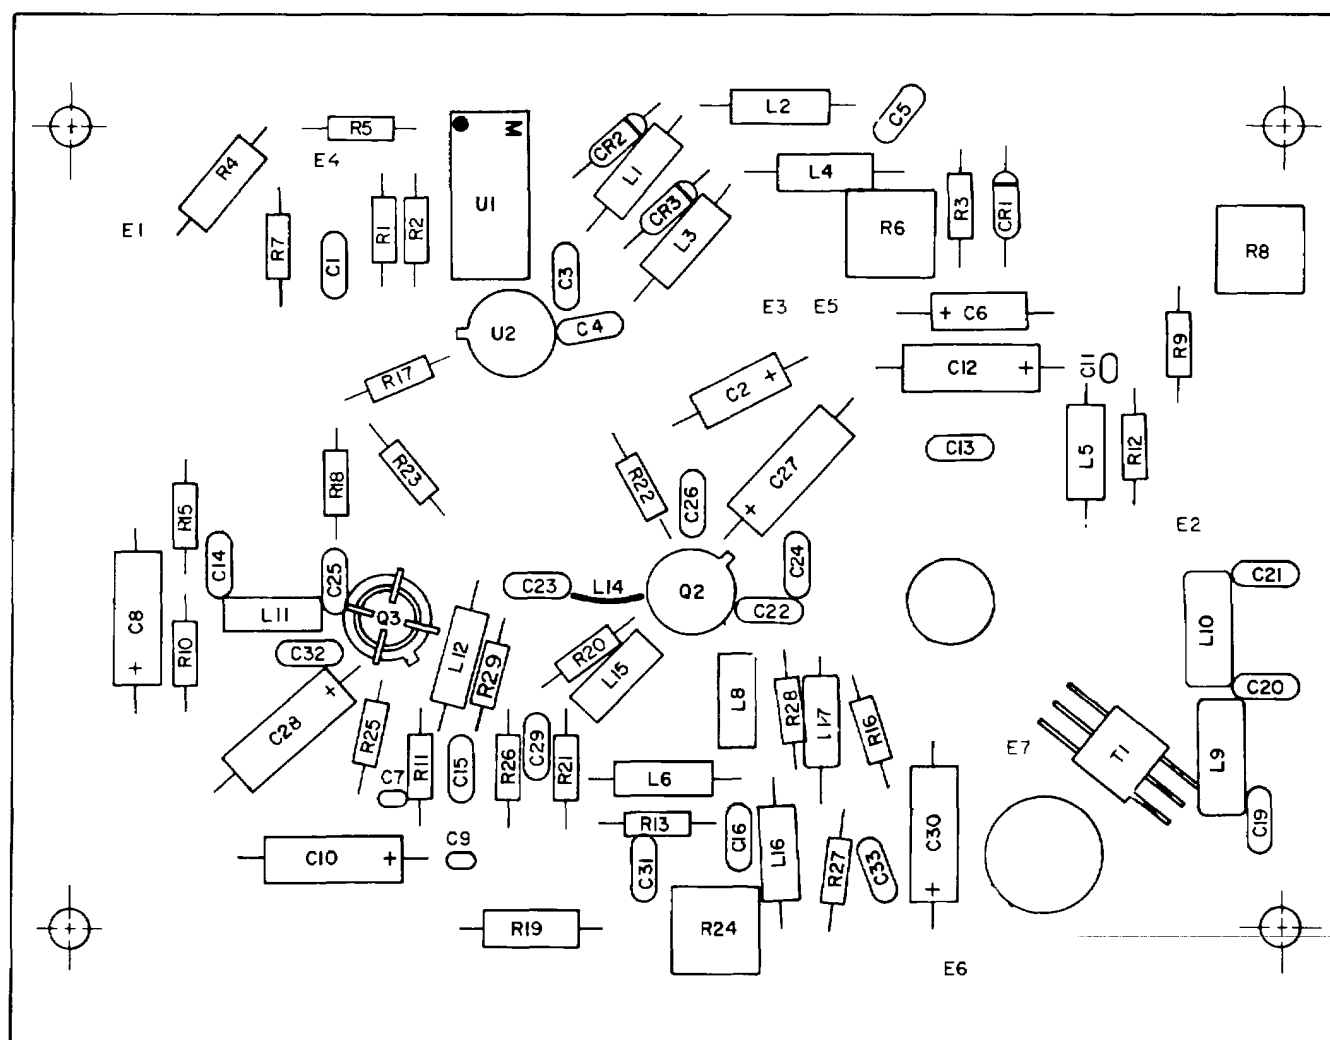

Figure 7-8. Modulation Eliminator Circuit Card Assembly, 1A5A5A1 Parts Location Diagram
h. Modulation Eliminator Circuit Card Assembly (1A5A5A1) Disassembly. To remove the modulation eliminator circuit card assembly, perform the following procedures. Further disassembly should be limited to removal of parts for repair or replacement. Refer to figure 7-8 for location of components to be replaced.
- (1) Remove four screws and nuts holding modulation eliminator circuit card assembly 1A5A5A1 in place.
- (2) Unsolder the connections (C1, C2, E1 and E2).
- (3) Remove the circuit card assembly (1A5A5A1) from the chassis.